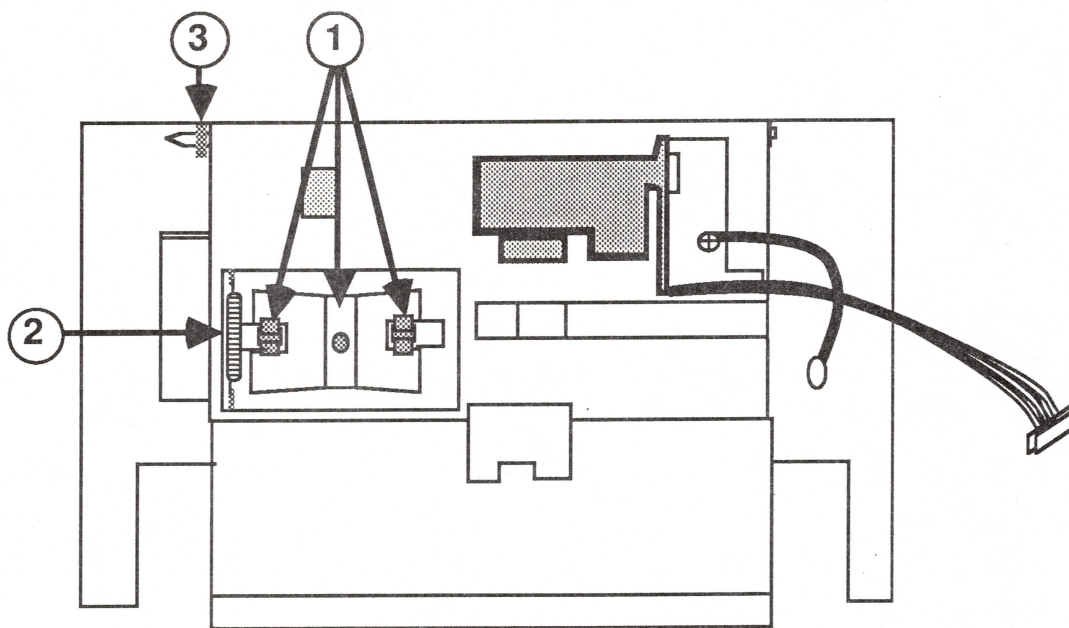
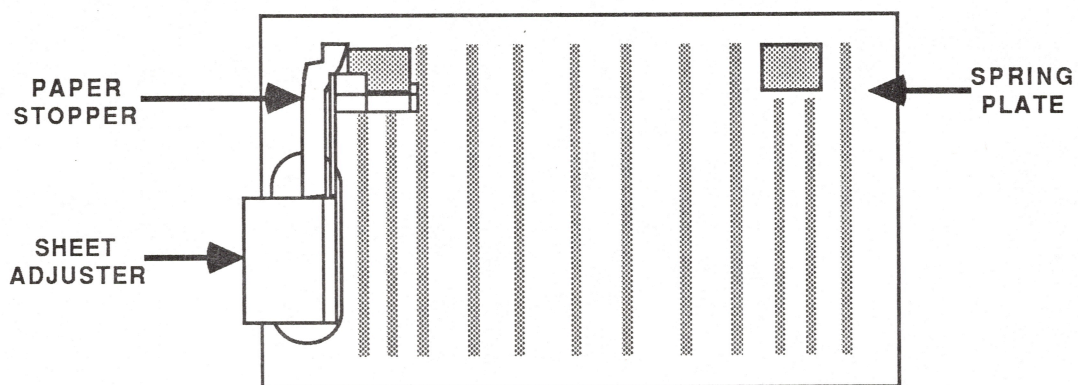

FIGURE 4
FIGURE 5
2. Remove the metal spring plate, which holds the sheet adjuster in place, by squeezing the tabs together with a pair of needlenose pliers (see Figure 4, #1).
3. Disconnect the spring that holds the paper stopper in place (see Figure 4, #2).
4. Remove the e-ring from the pointed end of the spring plate shaft (see Figure 4, #3).
5. Set the housing assembly on its side, squeeze the tabs (see Figure 4, #1), and push them through the openings in the housing. Turn the housing over and remove the plastic spring plate with the attached pieces (see Figure 5).
2. Position the plastic spring plate and the attached pieces so that the tabs line up (see Figure 4, #1), and snap the plastic spring plate into position and hold it there.
3. Insert the spring plate shaft through the housing and the plastic spring plate and attach the e-ring (see Figure 4, #3).
4. Position the metal spring plate and snap it into place over the tabs (see Figure 4, #1).
5. Connect the spring that holds the paper stopper in place (see Figure 4, #2).